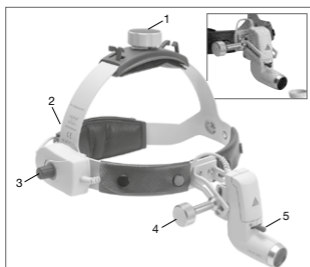

Fig. 4 Headband Professional L (see tall fig.), optical protection cover (see small fig.)
Adjustment of the **headband Professional L** (see Fig. 4): To adjust for the head size, the headband can be widened or tightened by turning the turnbuckles at the top (1) and the back (2).
Selecting viewing angle and field of view (Fig. 4)